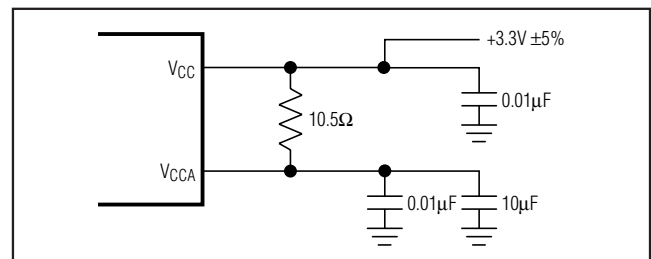

Figure 1. Analog Supply Filtering
**Note 1:** A series resistor of up to  $10.5\Omega$  is allowed between  $V_{CC}$  and  $V_{CCA}$  for filtering supply noise when system power-supply tolerance is  $V_{CC} = 3.3V \pm 5\%$ . See Figure 1.
**Note 6:** Measured using setup shown in Figure 1.
The MAX3625B is a mixed analog/digital IC. The PLL contains analog circuitry susceptible to random noise. In addition to excellent on-chip power-supply noise rejection, the MAX3625B provides a separate power-supply pin, VCCA, for the VCO circuitry. Figure 1 illustrates the recommended power-supply filter network for VCCA. The purpose of this design technique is to ensure a clean power supply to the VCO circuitry and to improve the overall immunity to power-supply noise. This network requires that the power supply is +3.3V ±5%. Decoupling capacitors should be used on all supply pins for best performance.